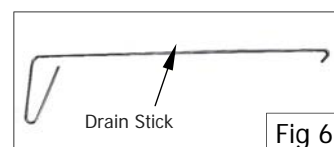

Fig 6
7. If necessary, use the drain stick (see Fig 6) to dislodge any blockages in the drain.